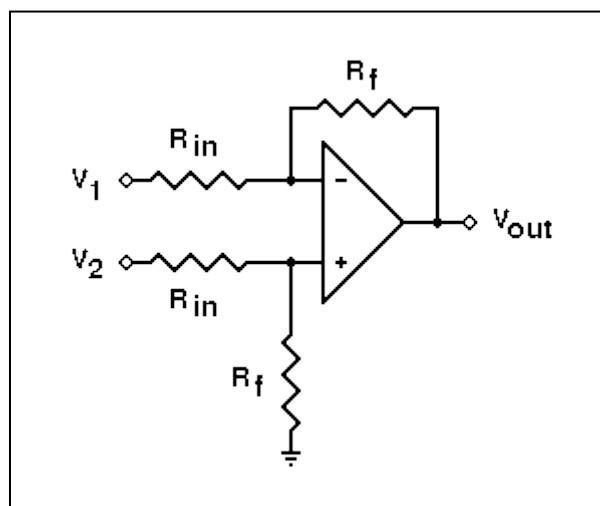

Figure 4: Differential amplifier circuit
- (f) Based on **Figure 4**, calculate the value of R_f . Given that $R_{in} = 1k\Omega$, $V_{out} = 13.5V$, $V_1 = -15V$, $V_2 = 15V$.